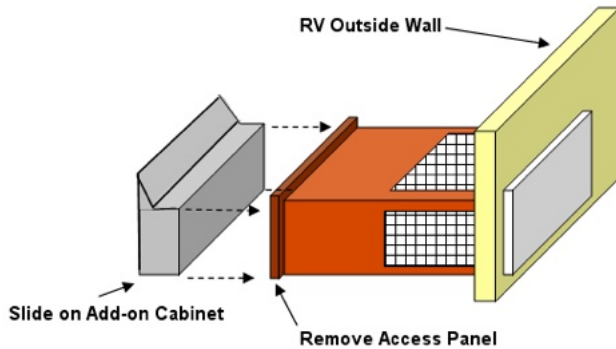

Figure 5
6. Replace the access door that was just removed with the new plenum (see figure 5) and secure in place with at least 3 of the 6 – 8 x 3/4" sheet metal screws (this may require that the flange on the sides be crushed flat along the sides of the furnace).